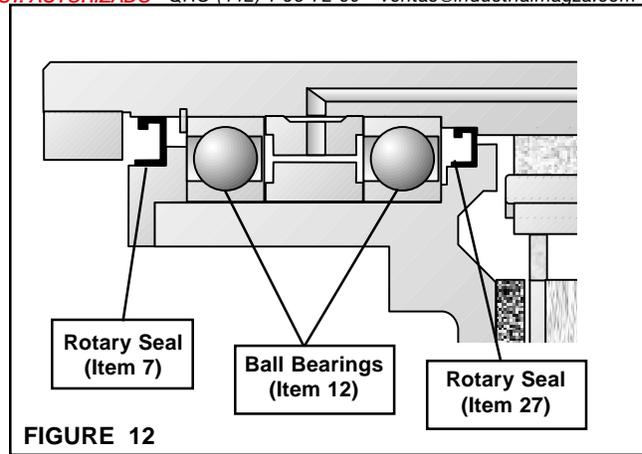

FIGURE 12
21. Lubricate the Ball Bearings (Item 12) until grease weeps past the Rotary Seal (Item 7) (See Figure 12).